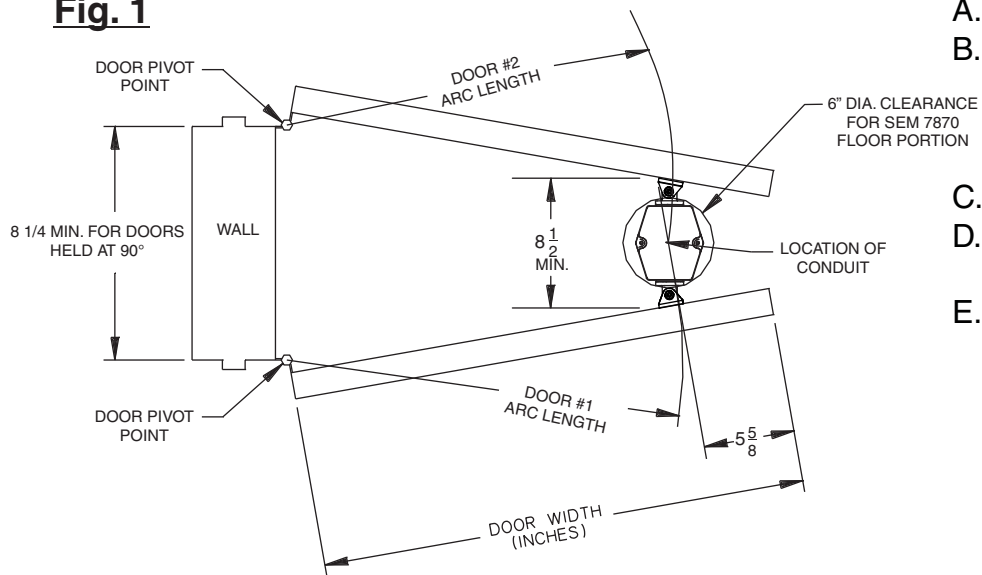

Fig. 1
- B. Guide the conduit through the hole in the base and snug up the conduit nut. Square up the base to the wall, as shown in Fig.1.